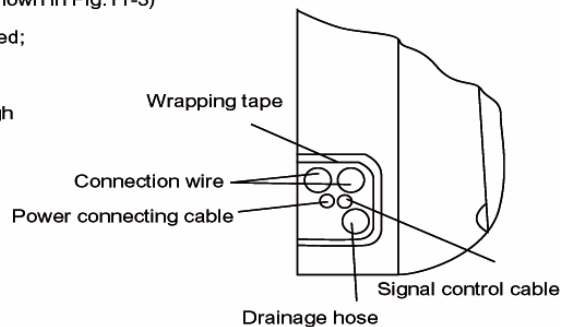

Fig.11-4
- ① Cut off tailing 1, tailing 2 only power cable is routed;
- ② Cut off tailing 1, tailing 2 when connection pipe and power cord are routed;
- After wrapped piping and wiring, pull them through the piping hole; As shown in Fig.11-4